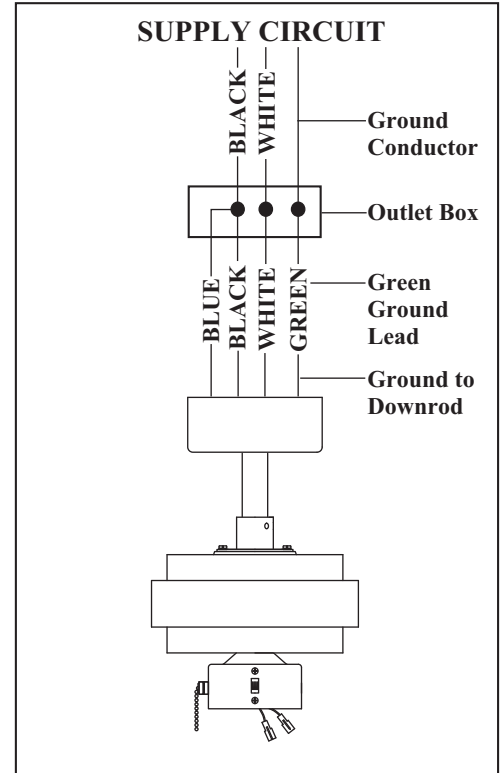

Figure 9
1. Connect the ground conductor of the 120V supply (this may be a bare wire or a wire with green colored insulation) to the green ground lead(s) of the fan (Figure 9).
2. Connect the fan motor white wire to the supply white (neutral) wire using a wire nut. (Figure 9)
3. Connect the fan motor black wire to the supply black (hot) wire using a wire nut (Figure 9).